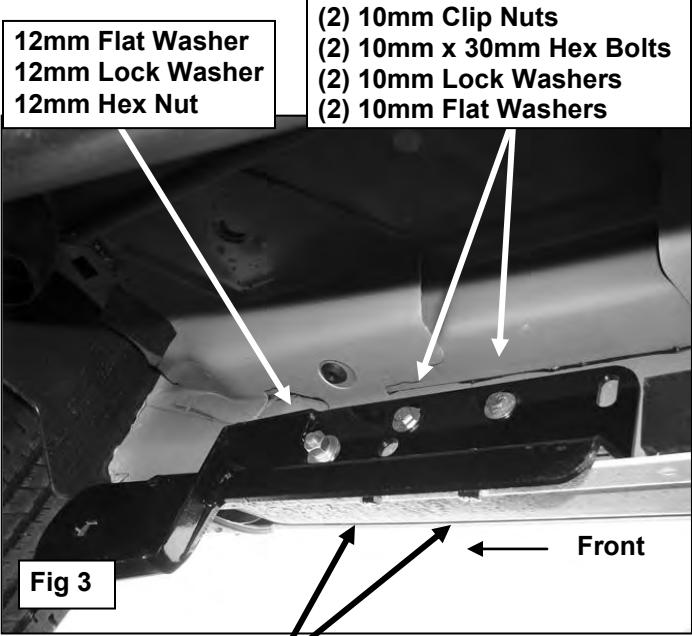

Fig 3
4. Select the passenger side front Mounting Bracket. Attach the Mounting Bracket to the Bolt Plate with (1) 12mm Flat Washer, (1) 12mm Lock Washer and (1) 12mm Hex Nut, (**Figure 3**). Do not tighten hardware at this time. Line up the front and center slots in the Mounting Bracket with the previously installed Clip Nuts. Attach the Bracket to the Clip Nuts with (2) 10mm Hex Bolts, (2) 10mm Lock Washers and (2) 10mm Flat Washers. Do not tighten hardware at this time.
5. Next, line up the two holes in the Bracket with the factory holes in the bottom of the body panel. Bolt the Bracket to the body panel using the included (2) 8mm x 30mm Hex Bolts, (4) 8mm Flat Washers, (2) 8mm Lock Washers and (2) 8mm Hex Nuts, (**Figure 3**). **NOTE:** Insert the Bolt with the Flat Washer up, from the outside-in and through the Bracket. Snug all hardware but do not tighten at this time.